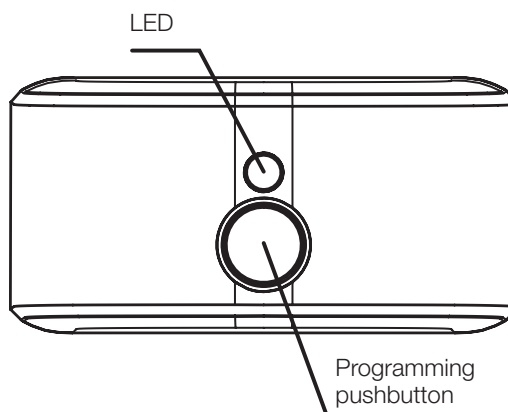

Figure 1: Localisation of the programming button
Memorisation and programming can be done using the programming pushbutton (Figure 1) on the BiDi-Switch.
1.	Press and hold the programming pushbutton (Figure 1).
2.	Release the programming pushbutton (Figure 1) when the LED glows with red (1 st position).
2.	Release the programming pushbutton (Figure 1) when the LED glows with orange (2 nd position).
3.	Press the programming pushbutton (Figure 1) the number of times corresponding to the required command 1 = ON output 1 2 = OFF output 1 3 = ON/OFF output 1 4 = ON output 2 5 = OFF output 2), 6 = ON/OFF output 2).